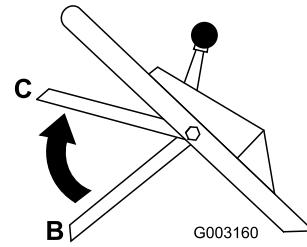

Figure 24
- Bring the control bar up into the middle position about 5 inches (12.7 cm) below the handle cross bar (Position C in Figure 24).
- Release the control bar (Position B in Figure 24).